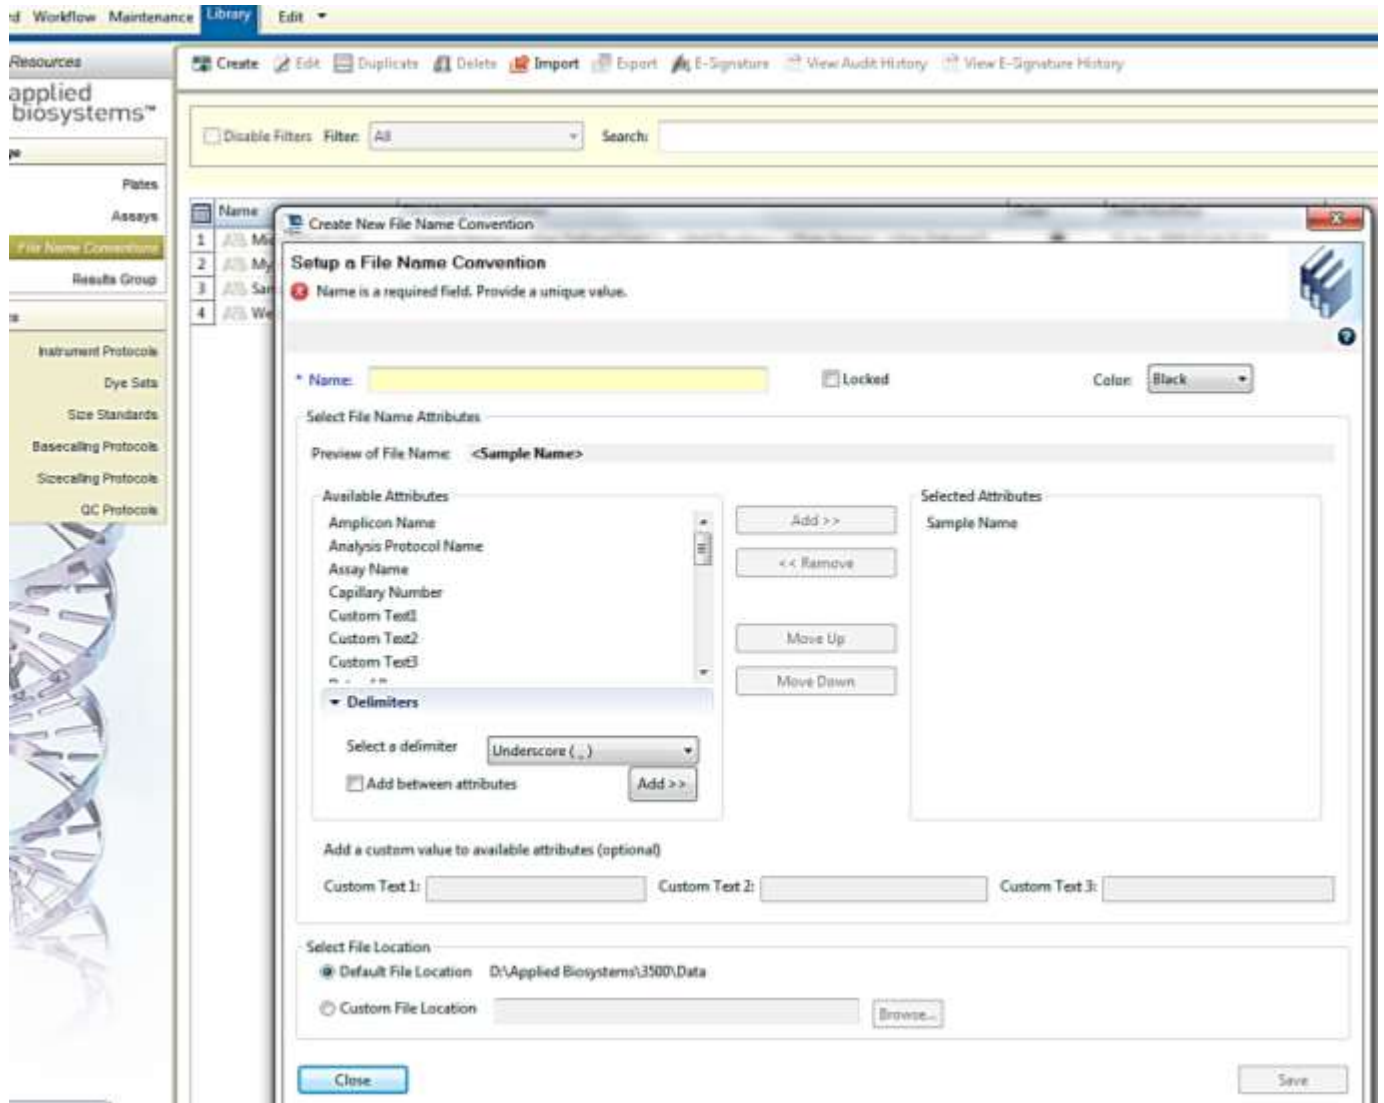

Figure 10- Screenshot for the “Create New File Name Convention” window on Applied Biosystems 3500 Data Collection software.
3. Select “Create” (Figure 10)